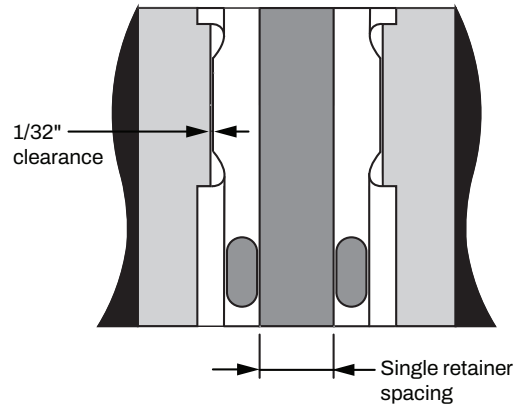

Figure 3 - Pad clearance
5. Place the two single retainers back-to-back in the gap between the first and last pads referencing Figure 3. Repeat Step 3. The space between the single retainers will vary slightly according to the actual pulley diameter. However, the gap should not exceed the limits found in the pre-installation instructions. Otherwise, non-standard installation is required.